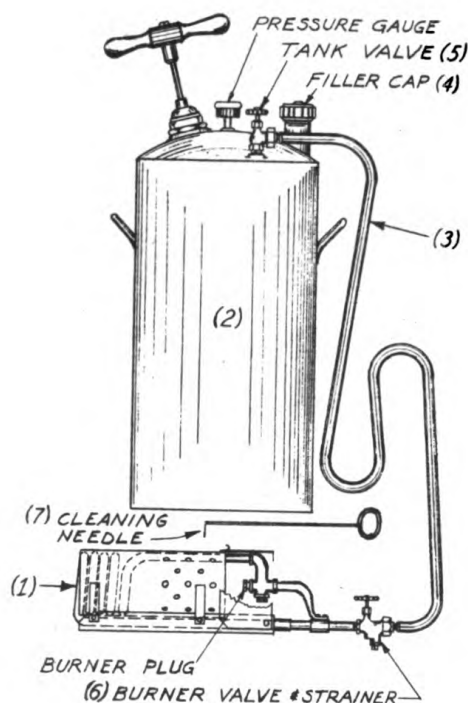

FIGURE 46
The TANK HEATER BURNER (Fig. 46) is an Aeroil torch-type distillate burner. The fuel and air are pumped together through heated coils which vaporize the fuel so that the burner plug emits a spray which burns instantly. The burner is placed on the bracket so that the flame enters the left end of the U-tube, the heat passing through the tube and out the exhaust. Whenever the burner is used, the asphalt in the tank must be circulated with the Viking pump.
1. Unscrew filler cap (4) Fig. 46 and fill 20 gallon tank to within about four inches of the top with fuel.